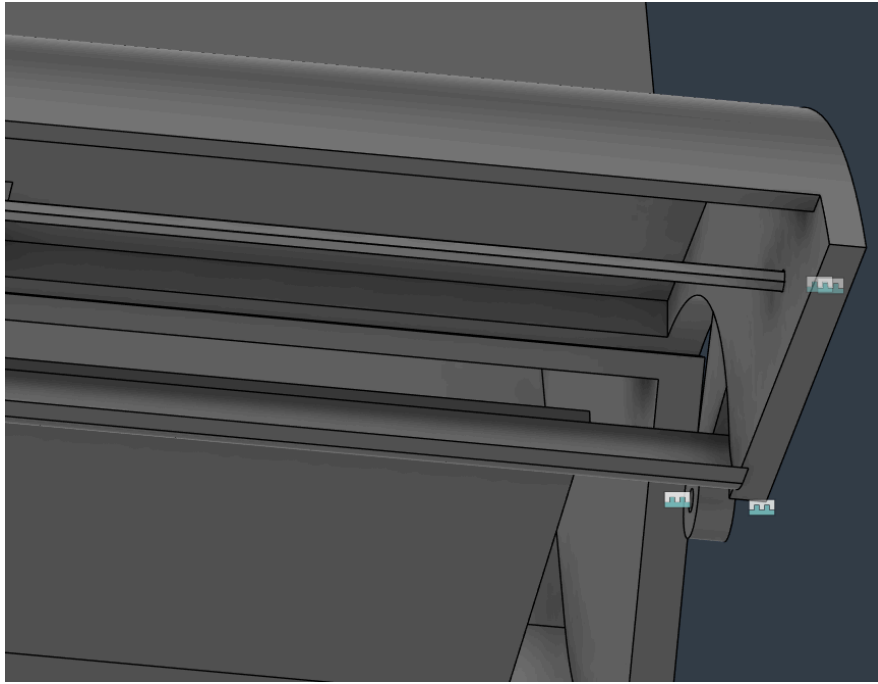

Figure G.4: Axle on the inside of the hood
2. Slide the 624 mm goBilda axle partially through the first bearing, as shown in Figure G.4.